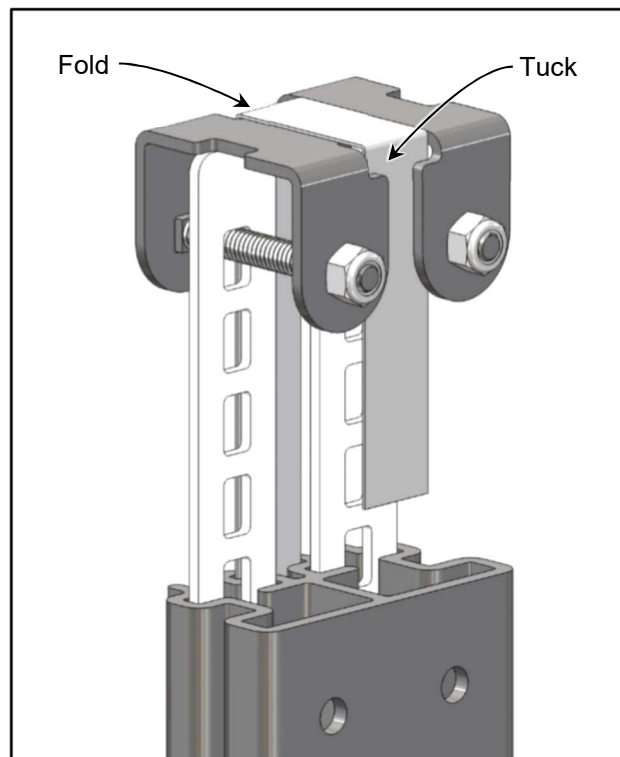

Figure 7
2. Fold over the Number Strip at the top of the Upright. Tuck the end of the Number Strip behind the Upright (See Figure 7).